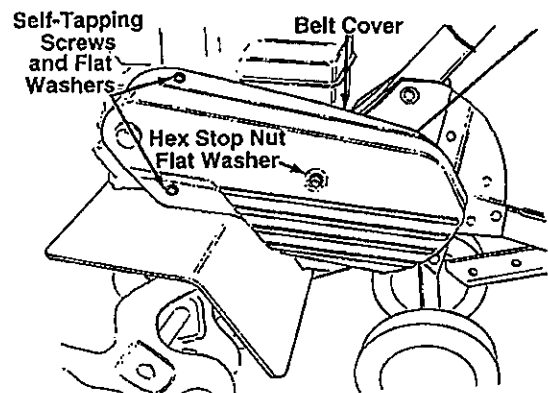

FIGURE 15
- a. Remove two self-tapping screws and flat washers from the front of belt cover. See figure 15.